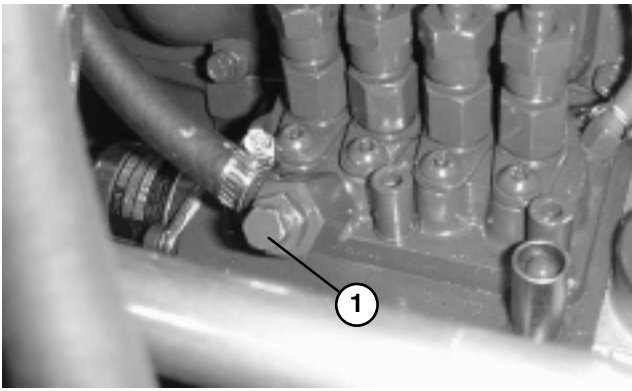

Figure 26
5. Open the air bleed screw on the fuel injection pump (Fig. 26).